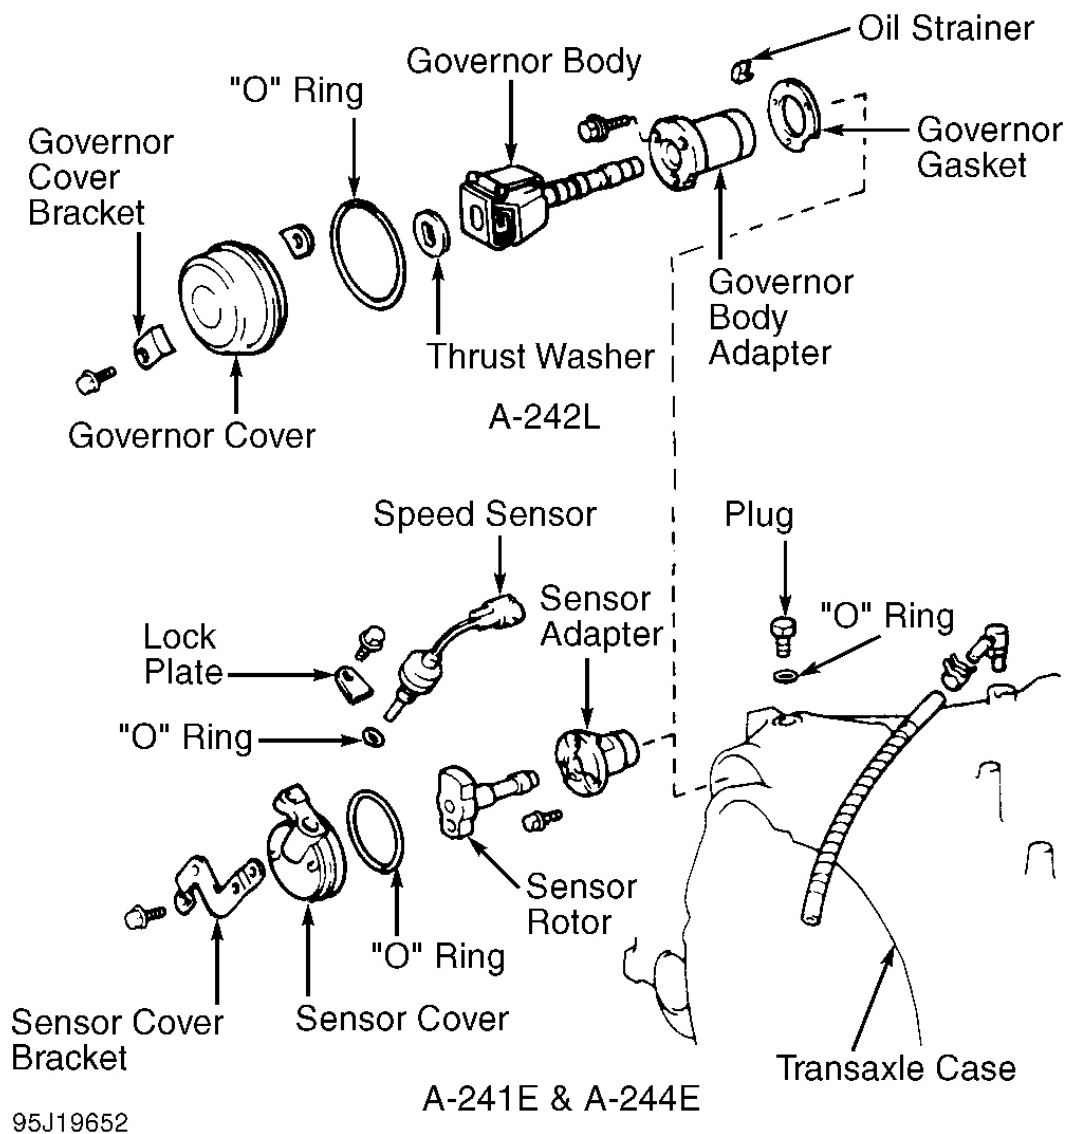

Fig. 11: Exploded View Of Governor/Speed Sensor Assemblies
2. On A-242L transaxle, remove governor cover. Remove "O" ring from cover. Remove governor assembly with thrust washer. Remove governor body adapter. Remove oil strainer. See **Fig. 11**.
3. On A-241E and A-244E transaxles, remove retainer plate and pull out vehicle speed sensor. Remove "O" ring from speed sensor. Remove 2 bolts and sensor cover bracket. Using a screwdriver, remove sensor cover. **DO NOT** damage cover. Remove sensor rotor. Remove sensor adapter. See **Fig. 11**.
3. Apply 14 psi (1 kg/cm²) of compressed air to oil passage to remove underdrive clutch accumulator piston and spring. See **Fig. 22** . Remove forward clutch accumulator piston and springs. Apply 14 psi (1 kg/cm²) of compressed air to oil passage to remove direct clutch accumulator piston and spring. See **Fig. 11** .